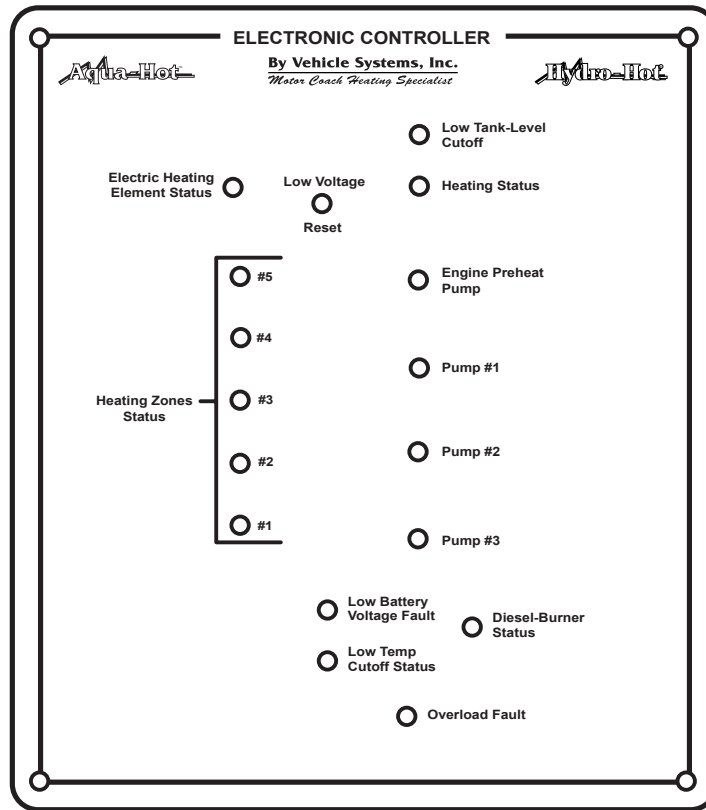

Figure 5
If the Aqua-Hot's Diesel switch "**Indicator Light**" does not illuminate, and the Diesel-Burner is not functioning, locate the Electronic Controller (**Figure 5**) and check the following:
- A. Check the Aqua-Hot's Electronic Controller for any RED lights indicating a fault condition. Reference **Figure 5** and the Electronic Controller Troubleshooting section to identify these fault conditions.